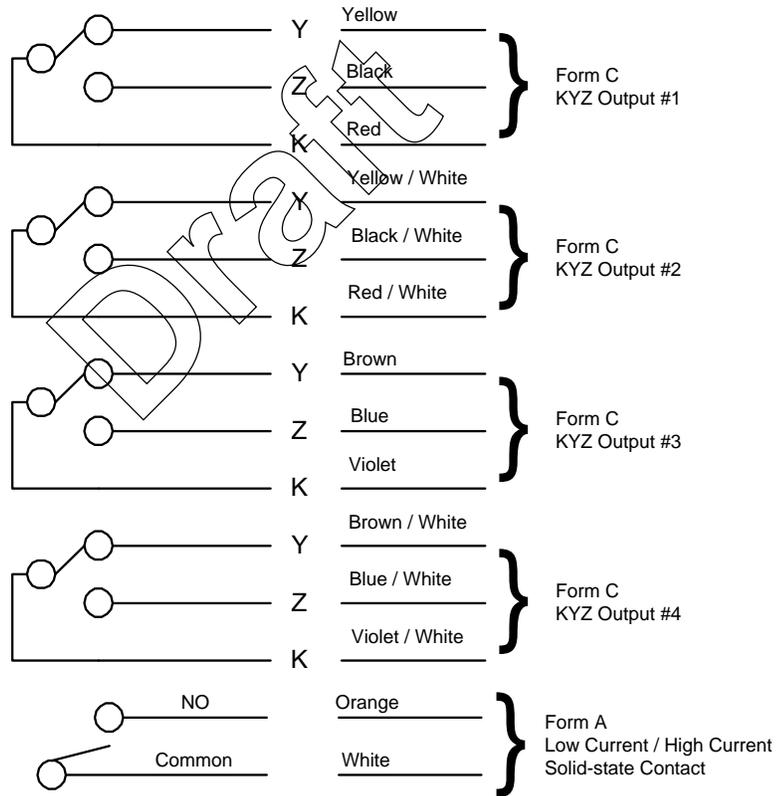

Figure 1.7 Input/Output Option 3
- Option 3 has four Form C KYZ outputs and one Form A low-current solid-state contact output. (See Figure 1.7 on page 1-8.)